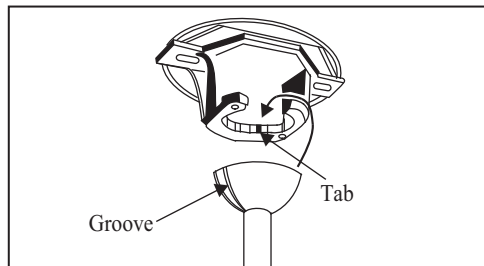

Figure 15
4. Carefully lift the fan assembly up to the hanger bracket and seat the hanger ball in the bracket socket. Make sure the tab on the hanger bracket socket is properly seated in the groove in the hanger ball. (Figure 15) This will help to balance the ceiling fan.
THE TAB IN THE RING MUST REST IN THE GROOVE OF THE HANGER BALL AS FIGURE 15. FAILURE TO PROPERLY SEAT THE TAB IN THE GROOVE COULD CAUSE DAMAGE TO WIRING.
2. Connect the fan motor white wire to the supply white (neutral) wire using a wire nut. (Figure 15)